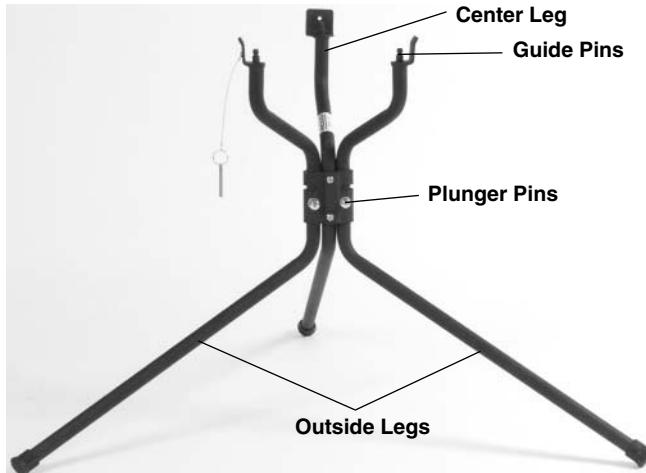

Figure 3 – Model 120 Stand in OPEN Position.
- Pivot the two outside legs of the 120 Stand outward until the plunger pins lock into place, (*See Figure 3*) and place in work area.
- Grasp the front and rear carrying handles of the threading machine and place it on the 120 Stand, be sure to place the base of the threading machine over the guide pins on the top of the 120 stand as shown in *Figure 3*. The center leg of the stand lines up under the rear centering device of the machine.